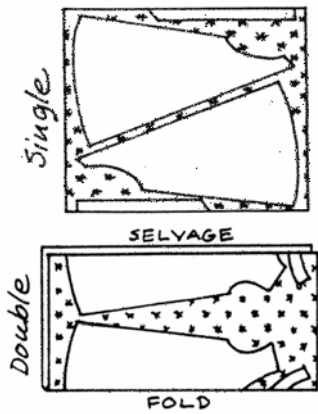

Figure 5
- which layout view is for special fabrics such as nap, one-way designs, or color shading (all pattern pieces **MUST** be turned in the same direction). (Figure 5)
- if the fabric is cut on single or double thickness. (Figure 5)